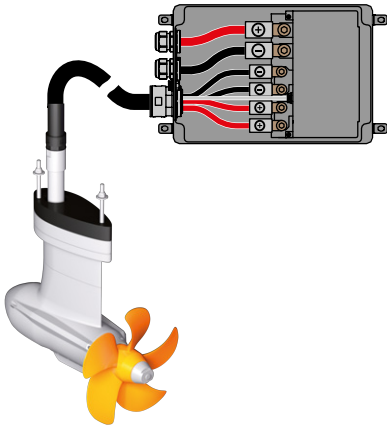

Fig. 45: Cabling of electronics box
1. Release the screws (1) of the electronics box in order to open it.
4. Connect the power cable to the respectively marked terminals (red = +, black = -; 10 Nm), see "**Fig. 45: Cabling of electronics box**".
5. Connect the motor cable to the motor control connection (6).